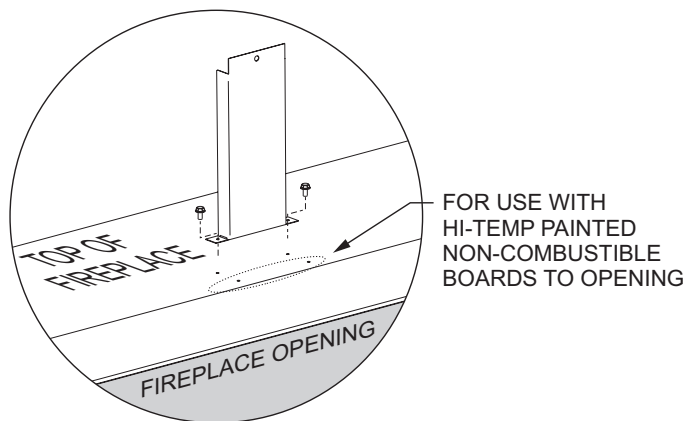

Figure 24
3. Secure the brackets to the fireplace top with six screws as shown in Figure 24. The screws are located in the hardware packet inside the envelope pack. There are holes located in the top of the fireplace for each mounting bracket. The hole closer to the front edge of the fireplace is for mounting noncombustible board around the opening (Finishing Option 1). The other hole is for mounting the non-combustible board flush to the fireplace face (top, side and bottom) (Finishing Option 2). See Figures 24 to 27.